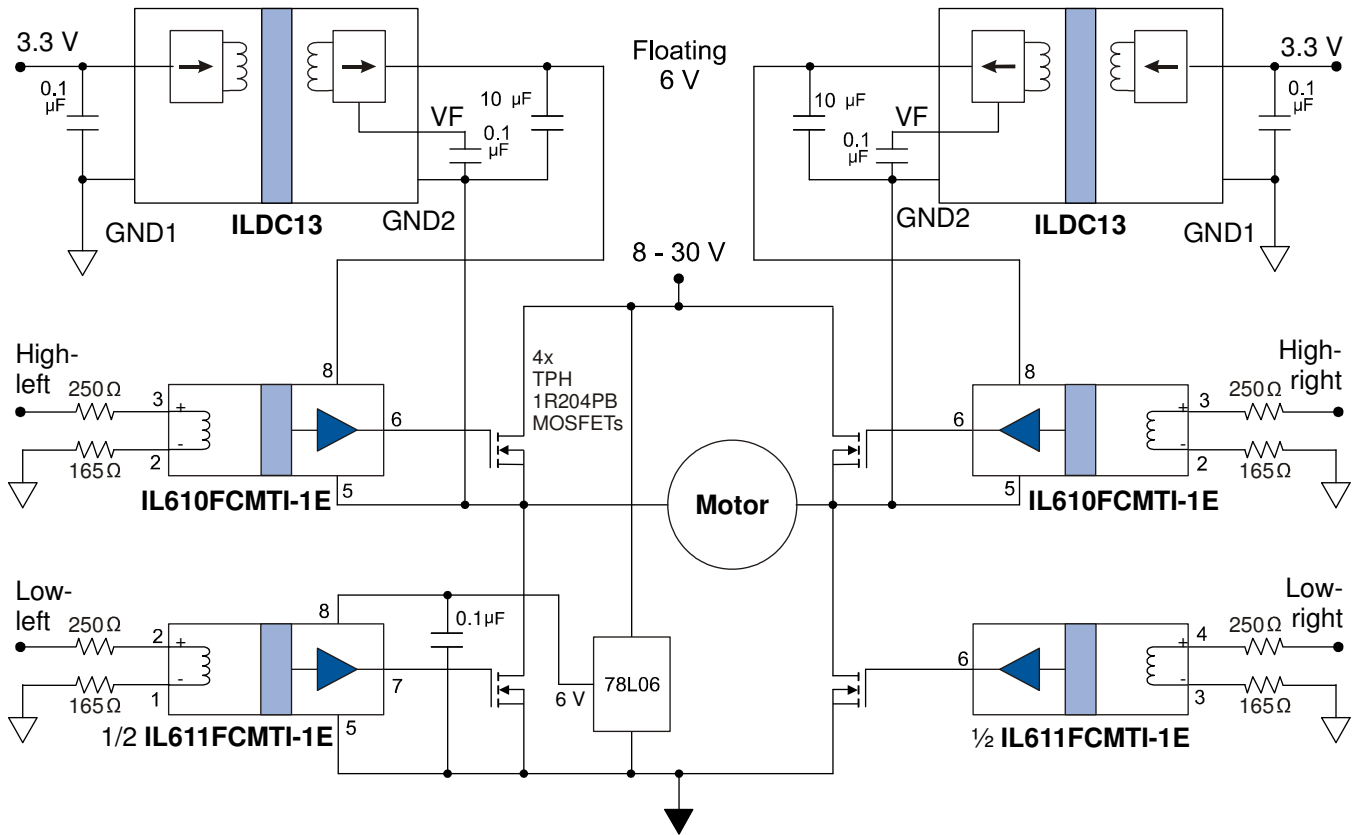

Figure 23a. Simple isolated H-bridge.
- Revised H-bridge application circuits to use new failsafe-LOW isolators (Fig. 23a and 23b, pp. 16 and 17).